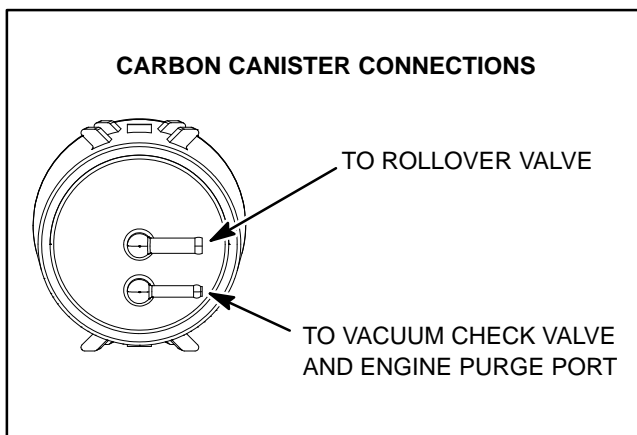

Figure 11
5. Remove EVAP components as needed using Figures 11, 12 and 13 as guides.
A. If hoses are removed from the carbon canister, note hose location for assembly purposes. Figure 11 identifies hose location.
1. Install all removed EVAP components using Figures 11, 12 and 13 as guides.